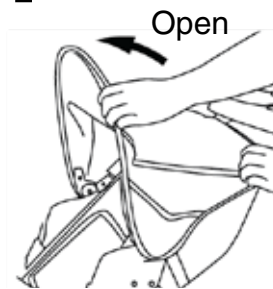
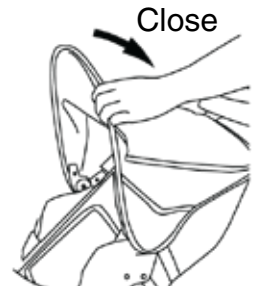

Fig. 4
Fig. 4A
8. To open the canopy: pull forward on the front edge of the canopy until fully opened. (Fig. 4) To close canopy: push backward on front edge until canopy is all the way collapsed. (Fig. 4A)